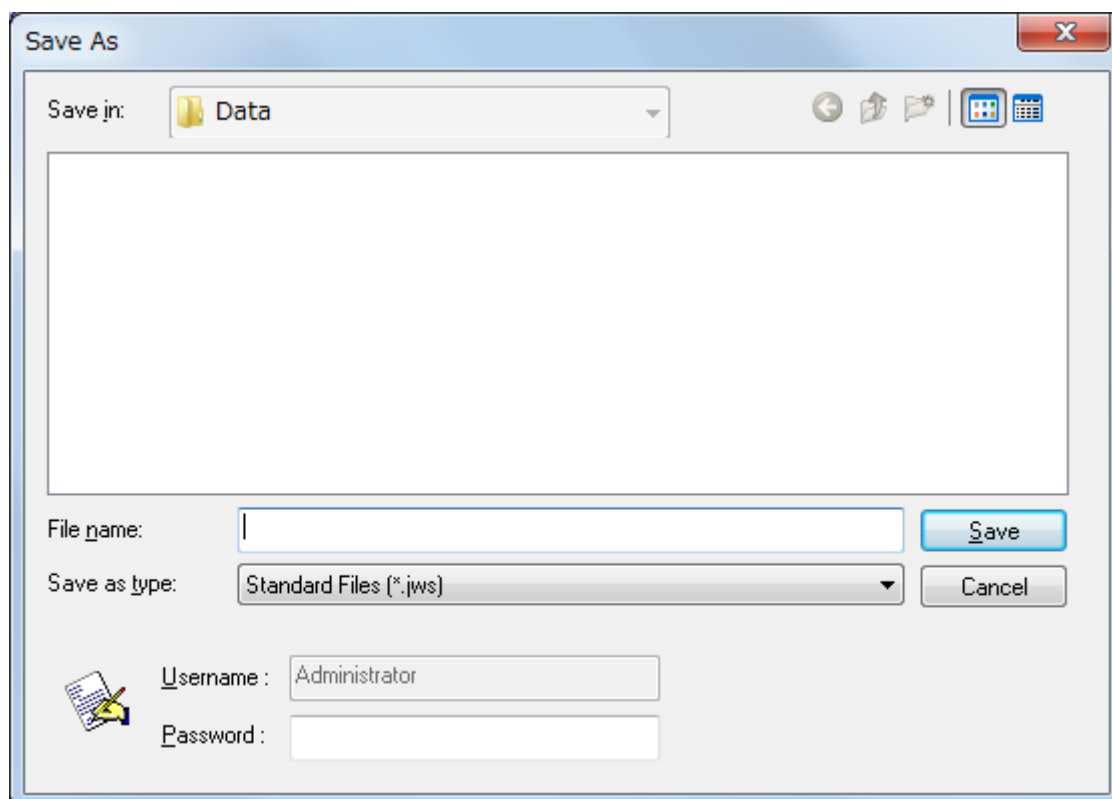

Figure 5.11 [Save Data] dialog box
- (1) Select [Save As...] from the [File] menu in the [Spectra Analysis] program to display the dialog box in Fig. 5.11.